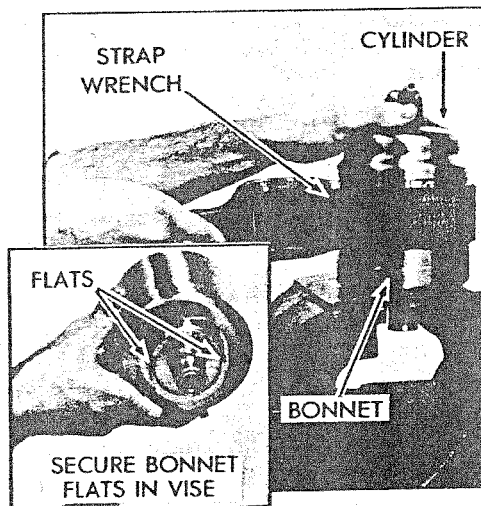

Figure 1. Removing Actuator Cylinder
2. Remove actuator cylinder from bonnet by applying a strap wrench to the cylinder and turning in a counterclockwise direction until cylinder and bonnet can be separated. See Figure 1.